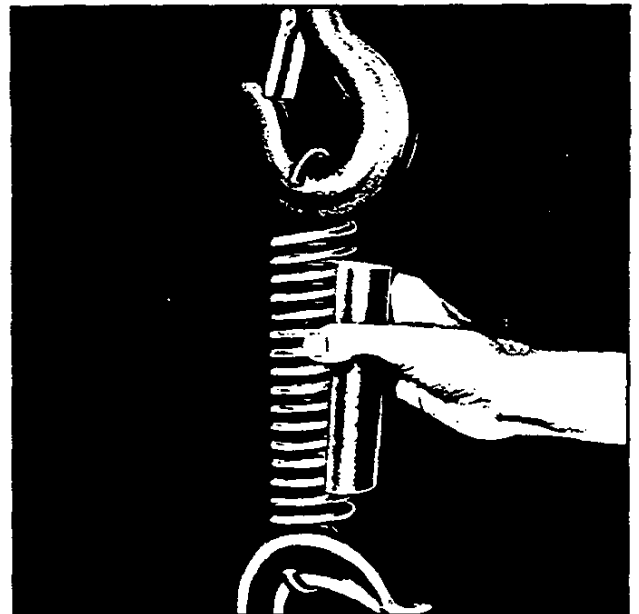

Fig. 39—Installing Tool J-9559 in New Spring
2. Hook one end of spring in clamp and the other end in hook of chain hoist, or "cherry picker", as shown in Figure 39.